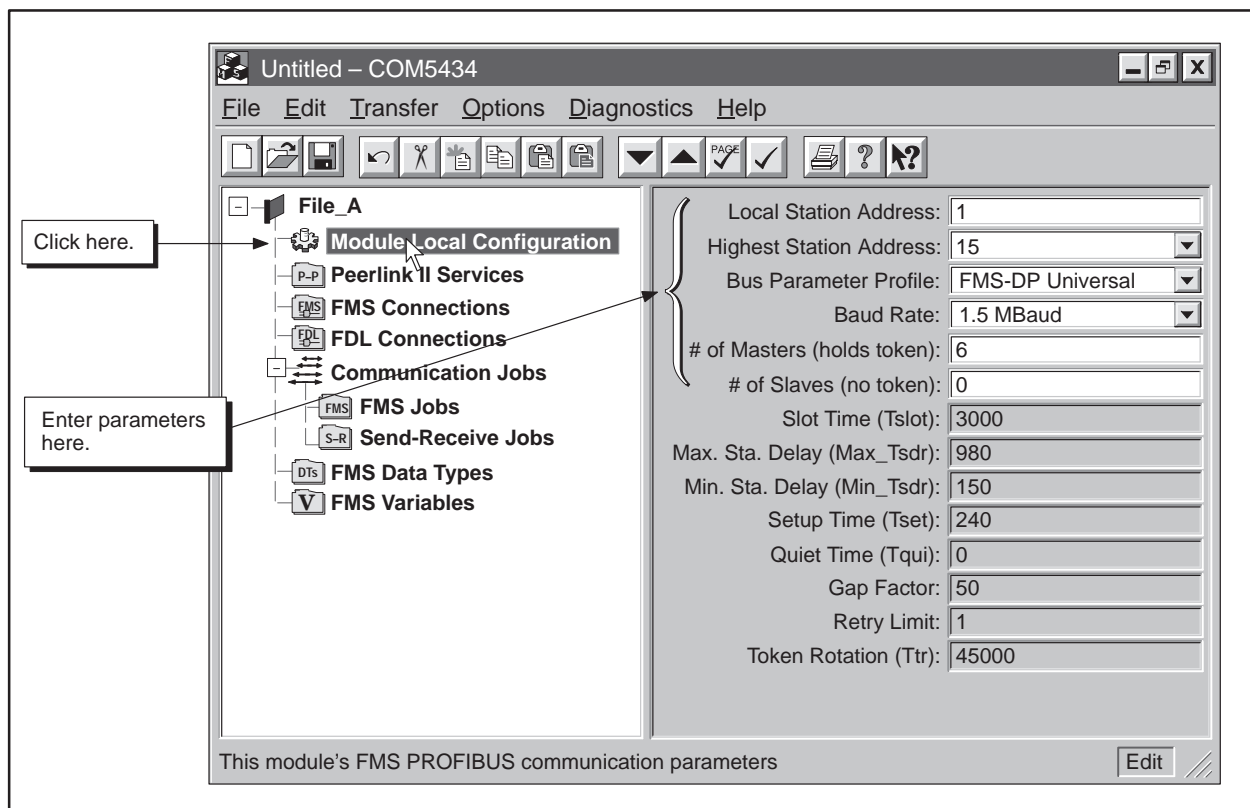

Figure 6-5 Module Local Configuration Example
2. Complete the fields listed below (and shown in Figure 6-5) to define the Module Local Configuration: